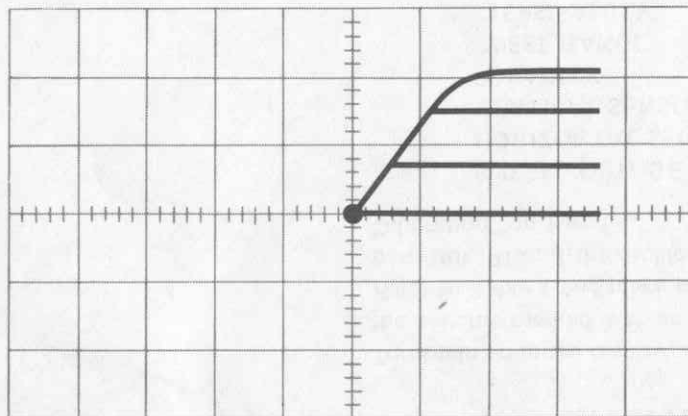
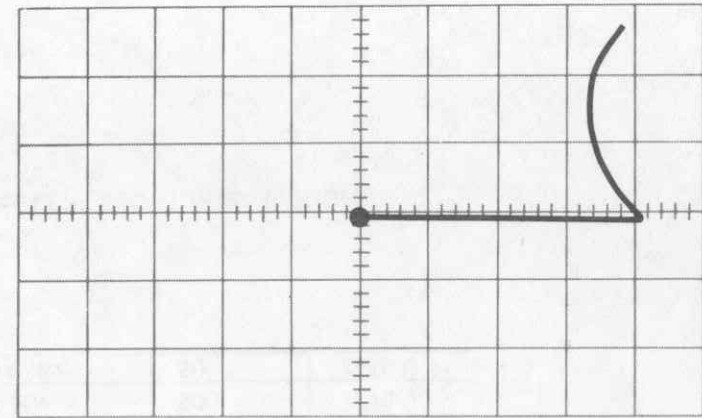
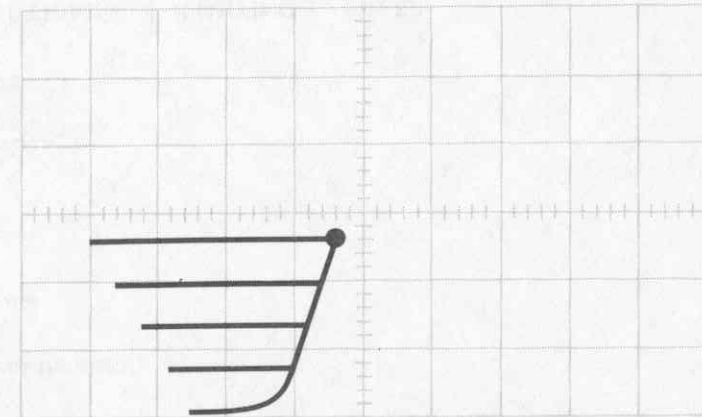

Figure 2-5
Figure 2-6
Figure 2-7
1. Slowly turn up the SWEEP VOLTAGE control. If the transistor is an NPN, curves will appear as shown in Figure 2-5. If it is a PNP, no curves will appear and breakdown, as shown in Figure 2-6, may appear. If this happens, switch the Polarity control to PNP. Then curves as shown in Figure 2-7 should appear.